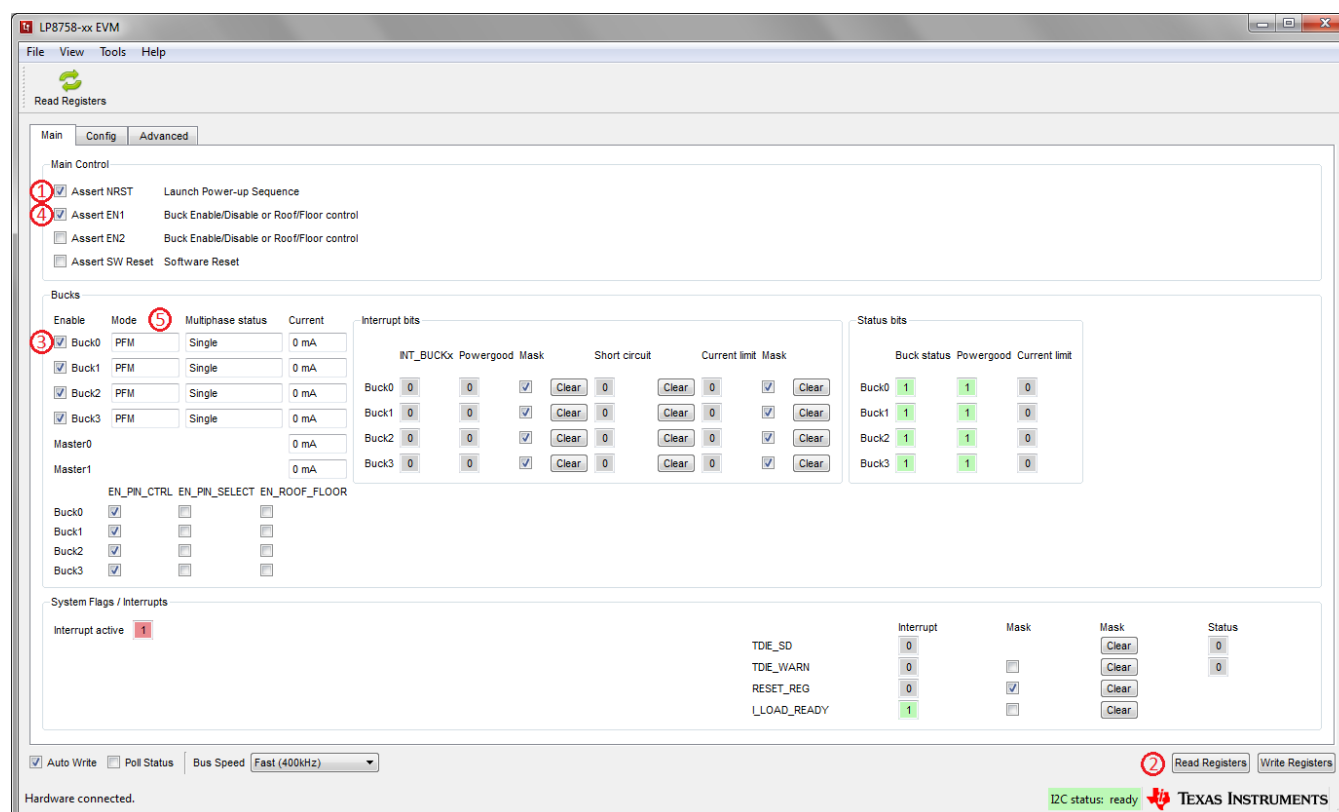

Figure 3. Evaluation Software GUI Showing Steps Needed to Power Up the LP8758-E0
1. On Evaluation software GUI, click on Assert NRST. See Figure 3: Marking "1".
2. Click on Read Registers button. You should see "I2C status: ready" message on the bottom of the GUI close to the Read Registers button. See Figure 3: Marking "2".
4. Click on Assert EN1. See Figure 3: Marking "4".
6. Check that the GUI indicates "PFM" under "Mode" and "Single" under "Multiphase status" of all bucks. See Figure 3: Marking "5". The EVM is now ready for testing with default register settings loaded.